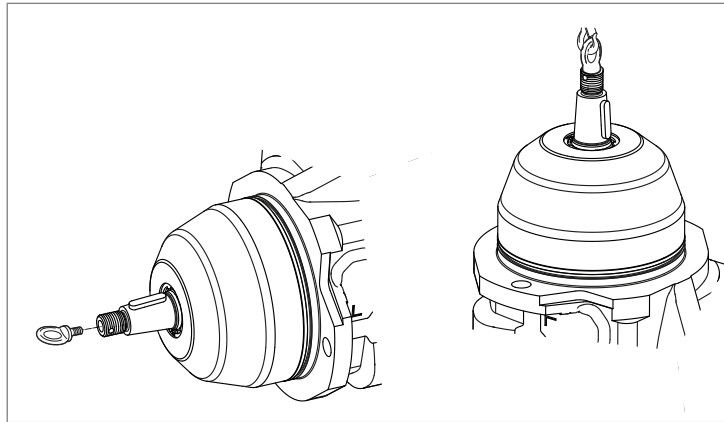

Fig. 4: Fixing the eye bolt
- ▶ Make sure that the eye bolt can bear the total weight of the axial piston unit plus 20%. You can hoist the axial piston unit as shown in Fig. 4 with the eye bolt screwed into the drive shaft.